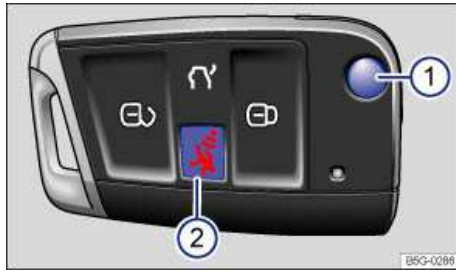

Fig. 17 Remote control vehicle key with panic button.
Pressing button ⇒ fig. 17 (1) releases the key bit and folds it out.